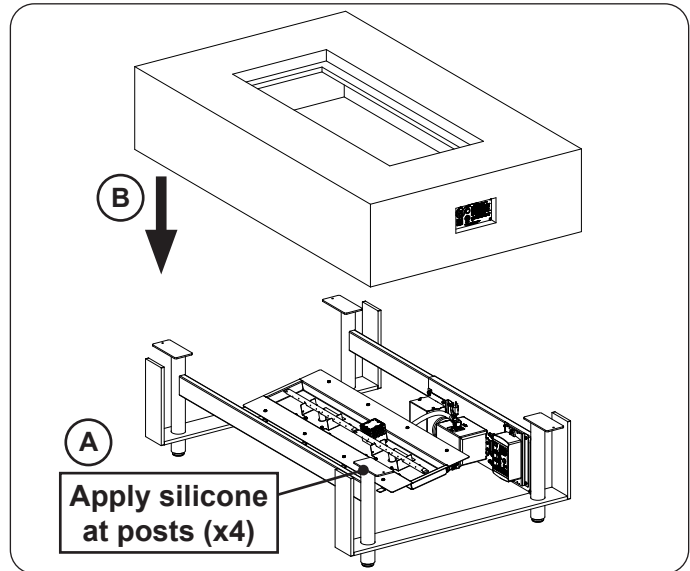

Fig. 34-1 Replace top/main unit
5. Apply silicone at the 4 posts, and replace the top/main unit (see Fig. 34-1).